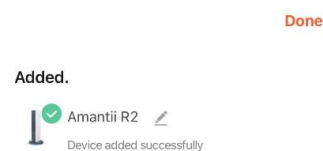

FIG.7
6. Now you are in the interface like FIG.7. You can operate the fireplace via Wi-fi.